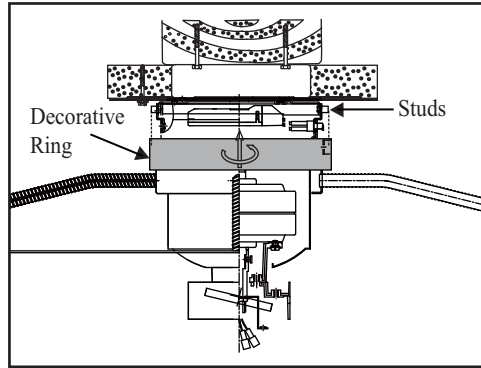

Figure 10
2. Raise the decorative ring up against the mounting bracket, the four supports inside the decorative ring should be placed against the four studs on mounting bracket, twist the decorative ring clockwise until snug (Fig. 10).